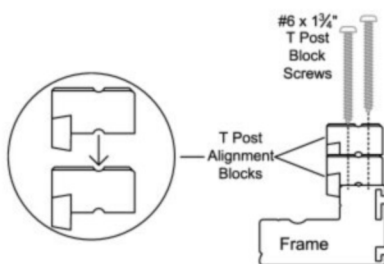

Fig. 7.1
- Stack two T Post Alignment Blocks, both with the tabs facing down. (See Fig. 7.1)
- Position the stacked blocks on the light block portion of the frame so that the holes in the blocks align with the pre-drilled holes in the frame. (The tabs will hang off the inside edge of the light block.) (See Fig. 7.1)
- Using (2) #6 x 1 3/4" T Post block screws, attach the blocks to the frame. Do not completely tighten the screws down, only make them snug. This will allow some side to side adjustment of the T Post.